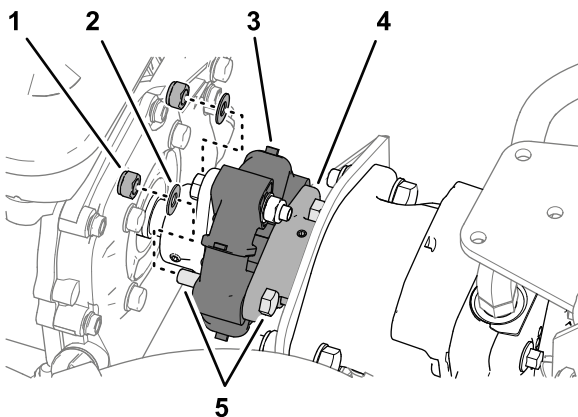

Figure 24
2. Assemble the coupler onto the bolts and secure the coupler (Figure 24) with 2 washers (8 mm) and 2 locknuts (8 mm) that you removed in Removing the Engine (model 44913) (page 4).